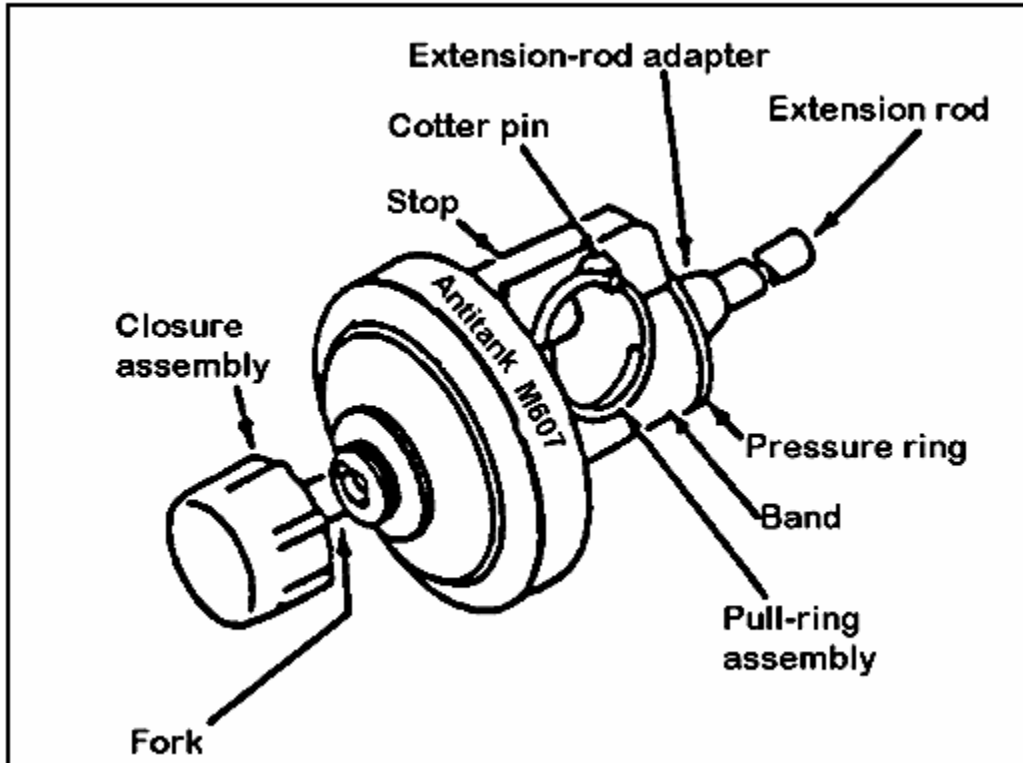

Figure 052-192-1117-1
- b. Ensure that there is no obvious damage to the M607 fuze. Remove the closure cap and, while keeping your hand clear, inspect the fuze assembly by removing the D ring (cotter pin) and stop band to ensure that the plastic collar is intact. Rotate the fuze around the U-band in a 360-degree circle, inspecting the entire fuze (Figure 052-192-1117-1).